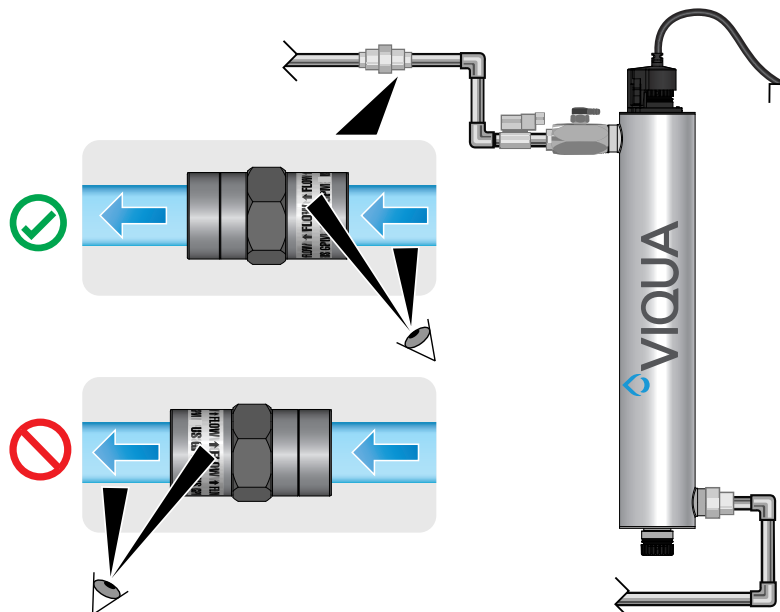

Figure 11 Flow Restrictor Installation Direction
- Ensure the flow of water matches the flow direction indicated on the flow restrictor. Refer to Figure 11.
4. Install the flow restrictor on the outlet side of the UV System. Refer to Figure 11.